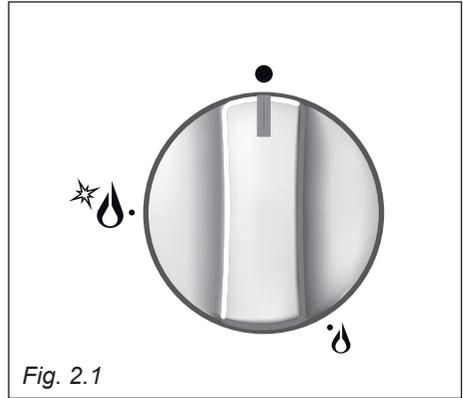
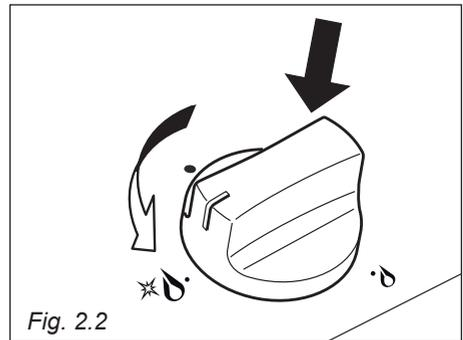

Fig. 2.1
Fig. 2.2
- Using a wrench, substitute the injectors "J" (figs. 2.2, 2.3) with those most suitable for the kind of gas for which it is to be used.
Gas flow to the burners is adjusted by turning the knobs (illustrated in fig. 2.1) which control the safety valves.
1. Press in the corresponding knob and turn counter-clockwise (fig. 2.2) to the full flame position marked by the  symbol (fig. 2.1); hold the knob in until the flame has been lit.